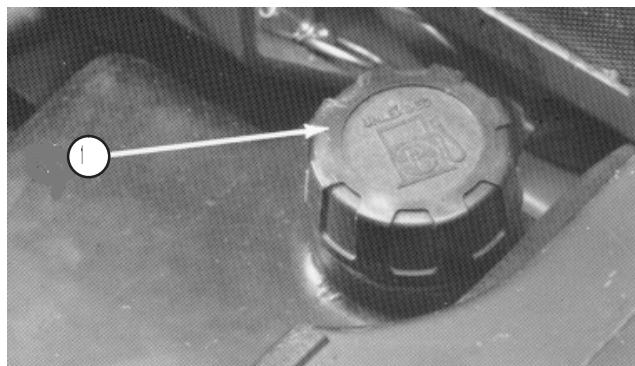

Figure 22
1. Tip seat forward and prop it with the support rod so it cannot fall accidentally. Using a clean rag, clean area around fuel tank cap (Fig. 22).